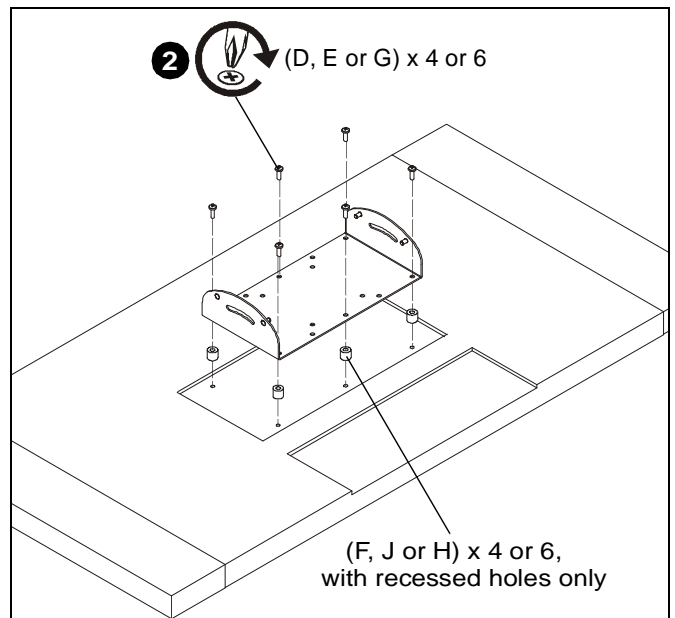

Figure 7
- Determine which size screw (D, E or G) to use to connect front plate (Q) to display. If mounting holes recessed, use spacers with longer screws and or/spacers. Use 1/8" spacers (J) with M4x12mm screws, 3/4" spacers (H) with M4 x 30mm screws (G) or 3/8" spacers (F) with M4 x 20mm screws (E).
- Use and selected screws (D, E or G) and spacers (F, J or H, if necessary) to secure front plate (Q) to back of display. (See Figure 7) Proceed to Step 5.